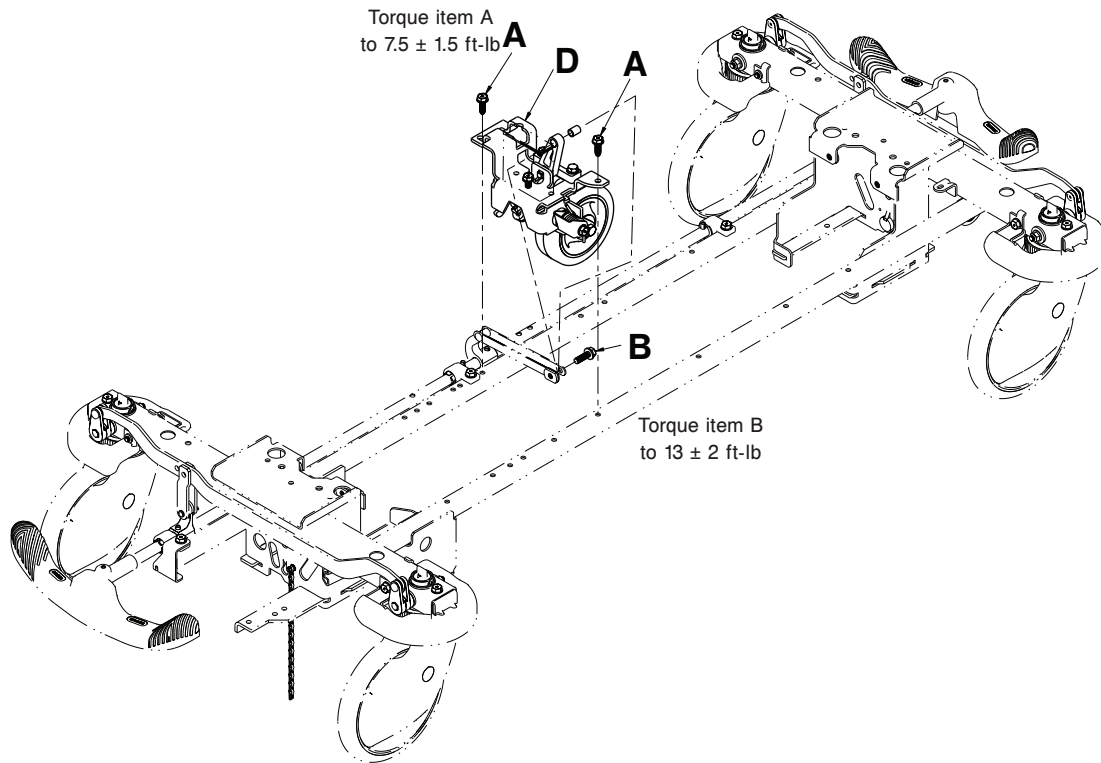

Figure 10 – Replace the fifth wheel assembly
2. Using a 1/2" socket with a 3/8" drive ratchet, remove the hex washer head screw (B) that secures the fifth wheel cam drive link to the cam (Figure 10).